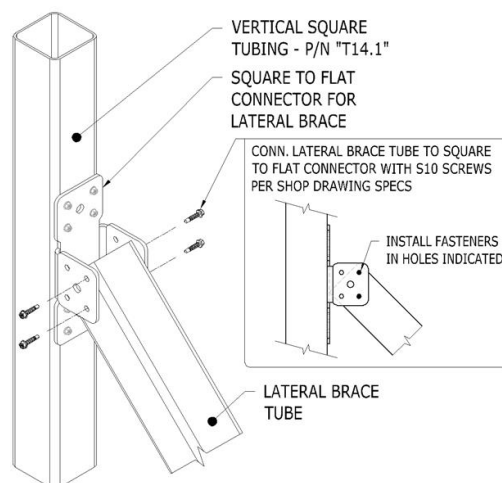

FIGURE 22
Secure the Lateral Brace Tubes using (2) S10 Tek screws at each lateral brace bracket, as seen in Figure 22.